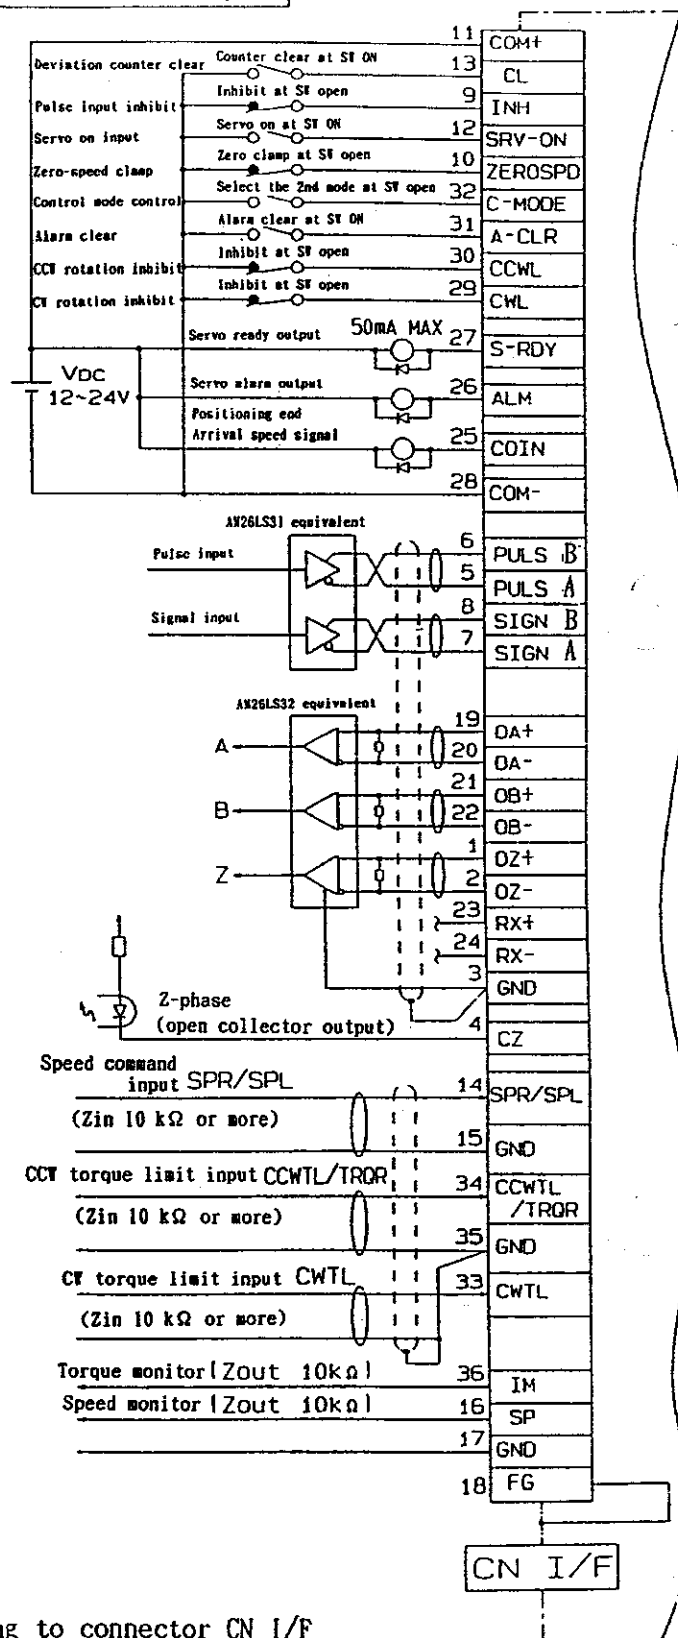

Fig. 2. Example of wiring to connector CN I/F
- (1) Please make wiring per Fig. 2.
- (5) Please do not apply more than DC 24V, 50mA, to each terminal of the control output (S-RDY, ALM, COIN), or avoid applying reverse polarity. This may cause damage to the driver.
- (6) If you directly drive a relay with the control output terminals, please install a diode in parallel with the relay as Fig. 2 shows. If you do not install a diode, or install it in reverse direction, this may cause damage to the driver.
- (7) As per Fig. 2, please use shielded, twisted pair wires for a signal line of CN I/F (analog command input, command pulse input, feed-back pulse output of the encoder etc.).
Refer to Fig. 2 of page 8 as well.